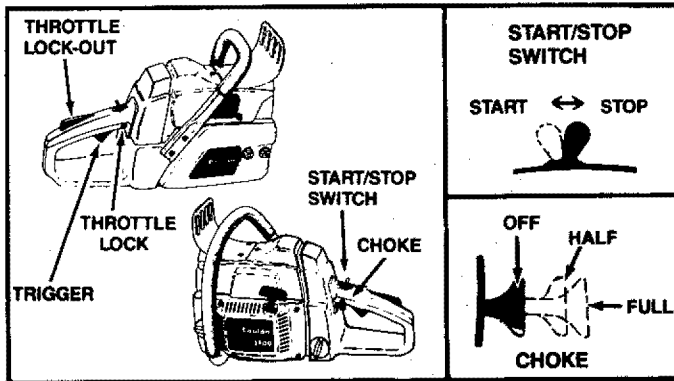

Figure 13
- The adjusting screw is located at the bottom of the saw on the crankcase next to the bar clamp housing and can be adjusted with the screwdriver end of the srench provided with your saw. Figure 13.
Understanding the control devices on your saw is an important part of learning how to properly and safely operate the unit. Figure 13.
- h. Stop engine by moving the start/stop switch to the "STOP" position (Figure 13).
- 1.) Pull choke to full choke position. Figure 13.
- 3.) Push choke until half position is felt. Figure 13.
- 5.) After 5 second warm up, push choke to the off position. Figure 13.
- 1.) Leave choke at the off position. Figure 13.
- 3.) Push choke to the off position. Figure 13.